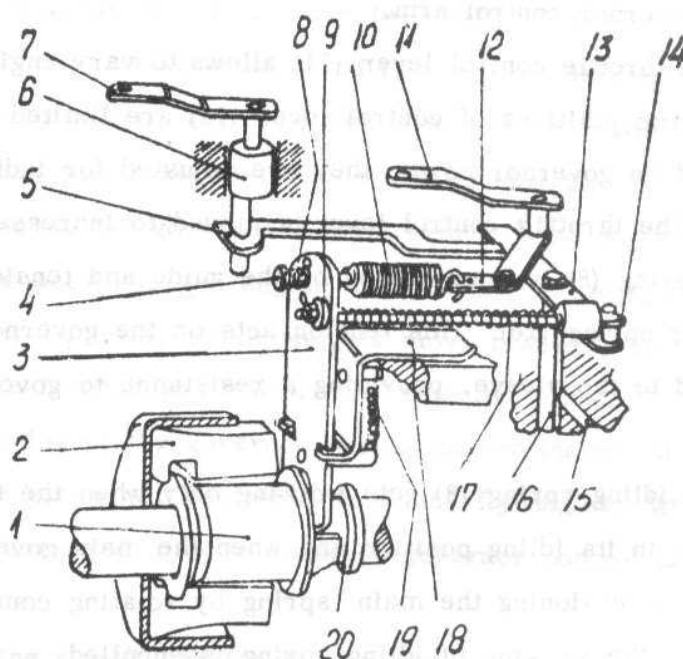

Fig. 4.77. CONTROL MECHANISM OF MECHANICAL GOVERNOR
The pump governor is of flyweight type, and gives sensitive control at all speeds and loads of engine. The weight retainer (30) - see Fig. 4.72 - usually contains six weights (2) - see Fig. 4.77 - and the retainer is fitted on the pump shaft (20). The weights, of special shape, are free in their retainer and can pivot about one edge. As the weights move in and out by centrifugal force, they axially move a thrust sleeve (29) which is a sliding fit on the drive shaft. This movement is transmitted by a linkage to the metering valve, which rotates to control the admission of fuel. The governor control arm (3) oscillates about a fulcrum on the control bracket (18) and is held in contact with the end face of the thrust sleeve by the tension of the spring (19).